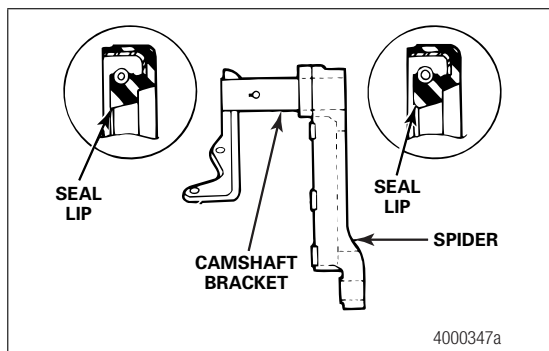

Figure 4.7
- If the brake has a stamped spider: Install both bushings into the bracket. Install the seals with the seal lips toward the slack adjuster to ensure grease purges at the slack end. Figure 4.7.